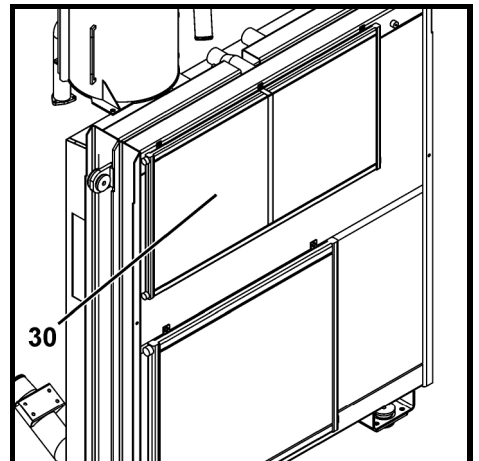

Fig. 42
- Check the heat exchanger of the condenser located on the engine radiator (Fig. 42, pos 30) and if necessary blow it out with pressurised air or steam, from the inner (fan side) to outside.